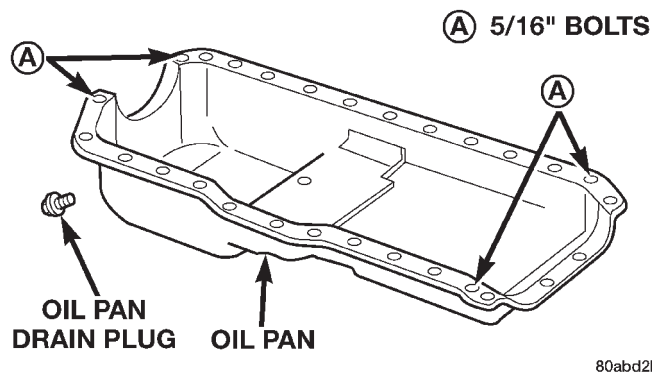

Fig. 54 Position of 5/16 inch Oil Pan Bolts
(4) Slide the one-piece gasket over the dowels and onto the block and timing case cover.
(5) Position the oil pan over the dowels and onto the gasket. If equipped with an oil level sensor, take care not to damage the sensor.
(6) Install the 1/4 inch oil pan bolts. Tighten these bolts to 9.5 N·m (84 in. lbs.) torque. Install the 5/16 inch oil pan bolts (Fig. 54). Tighten these bolts to 15 N·m (132 in. lbs.) torque.
(7) Remove the dowels. Install the remaining 1/4 inch oil pan bolts. Tighten these bolts to 9.5 N·m (84 in. lbs.) torque.
(8) Lower the engine until it is properly located on the engine mounts.
(9) Install the through bolts and tighten the nuts.
(10) Lower the jack stand and remove the piece of wood.
(11) Install the engine flywheel and transmission torque converter housing access cover.
(12) Install the engine starter motor.
(13) Connect the exhaust pipe to the hanger and to the engine exhaust manifold.
(14) Install the oil pan drain plug (Fig. 54). Tighten the plug to 34 N·m (25 ft. lbs.) torque.
(15) Lower the vehicle.
(16) Connect negative cable to battery.
(17) Fill the oil pan with engine oil to the specified level.